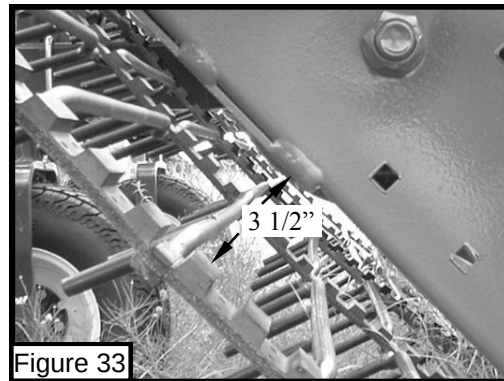

Figure 33
2. Check conveyor belt tightness approximately every 100 acres. Do not allow conveyor belt to become so loose that the drive sprocket tries to jump teeth. Running conveyor belt too tight can also cause excessive belt and sprocket wear. Readjust stretched belt to 3 1/2" dimension as shown in Figure 33. When installing a new replacement conveyor belt, adjust to 3 1/2" dimension.